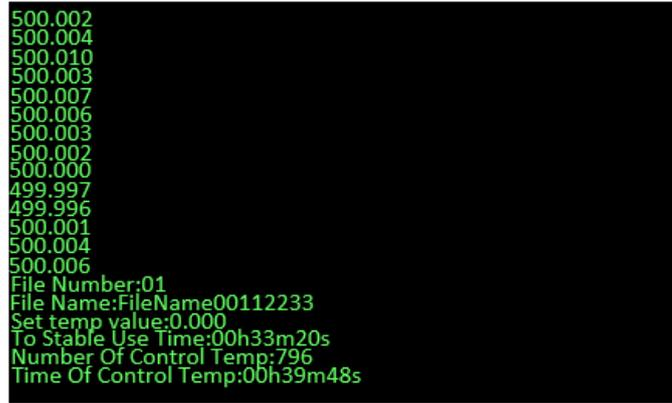

Fig 4.16 Serial Port Interface
- 3) **Print to the serial port:** Send all the information in the temperature control data file to the serial port tool. Connect the USB communication interface of the dry body furnace to the PC, and the effect is shown in Figure 4.16. Empty files will have no response when clicking.(USB communication Function is optional with extra charge, please contact manufacturer if necessary)